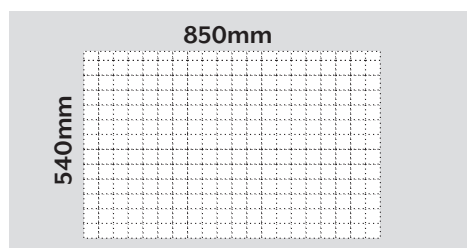

FIGURE 6
1. Prepare bench top cut out using the template provided, as shown in Figure 6. Use a fine point marker; then make your cut as accurately as possible.